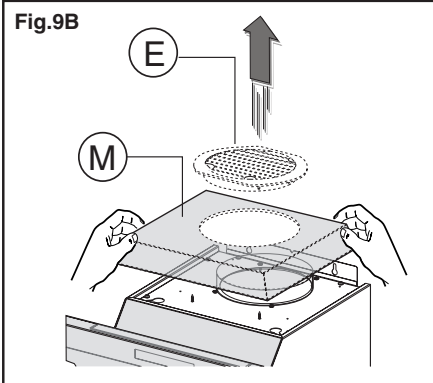

Fig.9B
- Remove both grid **E** on the air outlet hole and lid **M** as shown in (Fig.9B).